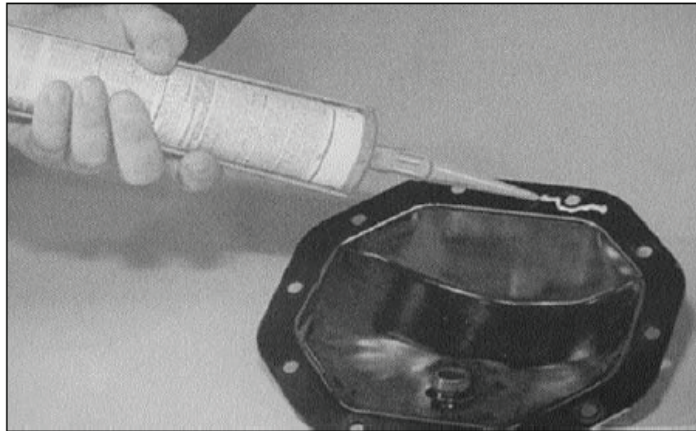
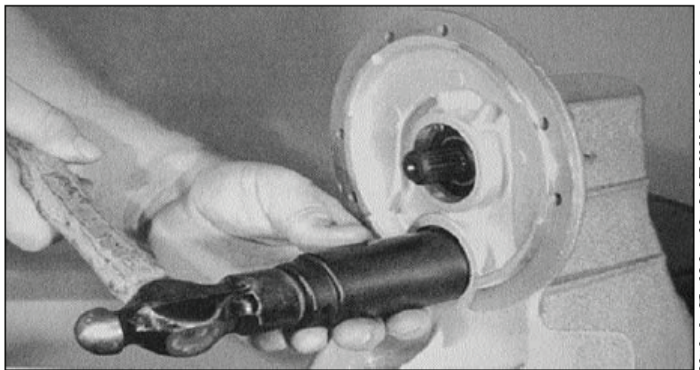

Figure 7-26. Installing Differential Case Assembly
Figure 7-27. Installing Cup Plugs
12. Install differential bearing caps (2) with bolts (3). Torque bolts to 35-45 ft. lbs. (47-61 Nm).
13. Place a small bead of RTV (non-acidic) silicone sealant to flange of cover plate (18). Sealant should be applied to inside of cover plate mounting holes (Figure 7-26).
14. Install cover plate (18) with ten bolts (20). Torque bolts to 16-24 ft. lbs. (21.5-32.5 Nm).
15. Install new intermediate cup plug (17) to both sides of housing (1). Use Loctite Safety Solvent #75559 to clean bores, then apply Loctite RC 609 to housing bores. Cup plugs can be installed by using a properly sized driver and hammer. Cup plugs should be firmly seated against snap rings (16). See Figure 7-27.
4. Place a small bead of RTV (non-acidic) silicone sealant to flange of cover plate (18). Sealant should be applied to inside of cover plate mounting holes (Figure 7-26).
5. Install cover plate (18) with ten bolts (20). Torque bolts to 16-24 ft. lbs. (21.5-32.5 Nm).
6. Remove fill plug (19) in cover plate (18). Fill axle assembly with 12 ounces (360 ml) of Light Weight Gear Lubricant, SAE 30.